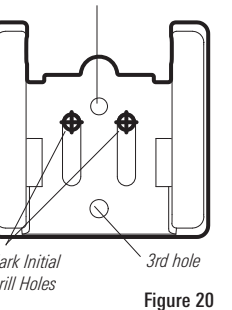

Figure 20
3. Continue to hold the bracket on the transom of the boat, and use a pencil or marker to mark where to drill the two mounting holes. Mark the drill holes near the top of each slot, making sure that your mark is centered in the slot (Figure 20).